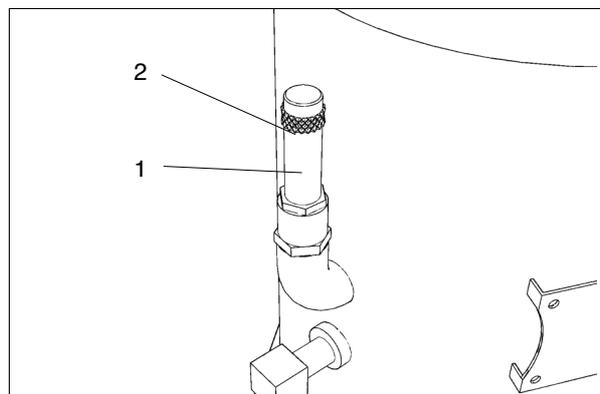

Fig. 24
Operate the safety valve (- 1 - Fig. 24), depending on the type of valve:
- Slightly turn the valve cap (-2- Fig. 24) (1-2 turns), and then re-close it.